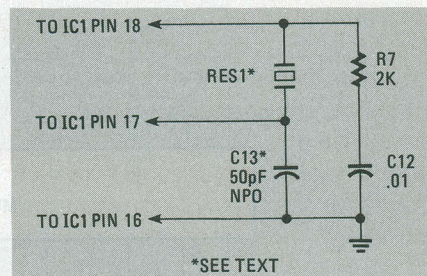
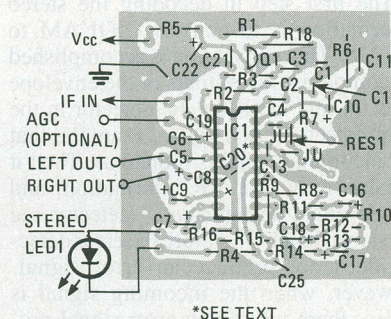

FIG. 6—THE OSCILLATOR CIRCUIT shown here needs an input IF of 450 kHz.
FIG. 7—THE PARTS-PLACEMENT diagram shown here corresponds to the VCO circuit of Fig. 6. Note that C20 is mounted on the foil side of the board.
The requirements of the VCO circuit design are not terribly critical—it must provide a one-volt P-P clean sine wave at 8 times the IF frequency to pin 14 of the MC13020P. One circuit that we can use is shown in Fig. 6. The corresponding parts-placement diagram for the decoder is shown in Fig. 7.
- C13—NPO. See Text and Figs. 6, 8, and 10